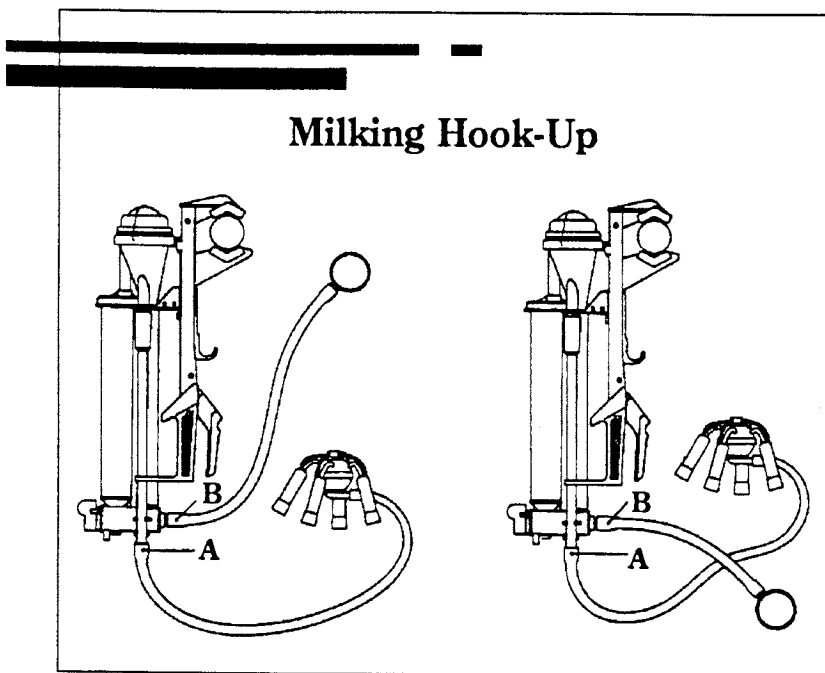

Figure 1
**Figure 1:** Attach a milk hose from the claw/cluster to the milk meter inlet tube (A). A second milk hose should be attached from the milk meter outlet (B) to the milk line.